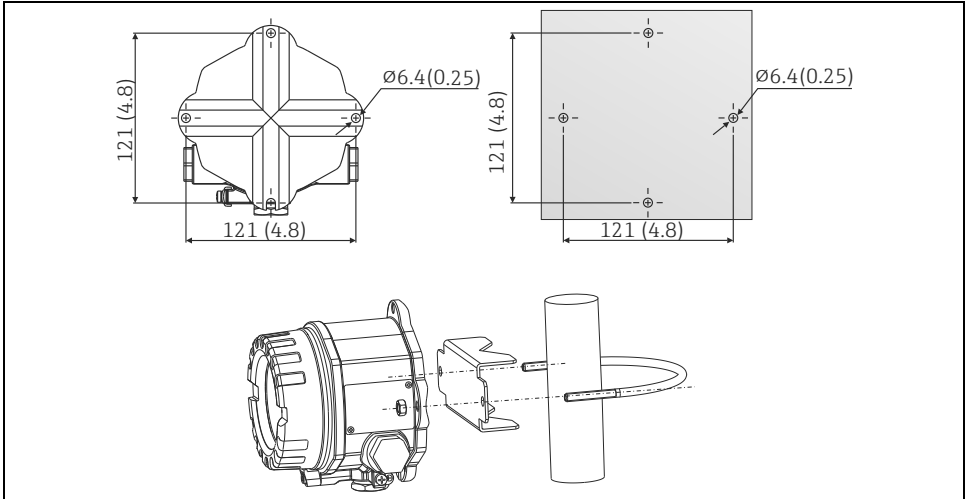

Fig. 1: Direct wall or pipe mounting (dimensions in mm (in))
- Drill 2 holes. Drill template and drill hole distance → Fig. 1.
The mounting bracket is suited for pipes with a diameter between 1.5 in to 3.3 in. Proceed as follows to mount the device on a pipe (→ Fig. 1):